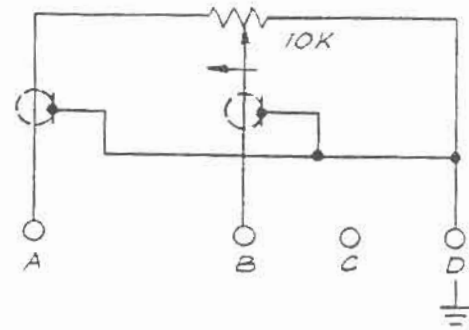

Figure 2-3 Potentiometer Connections for Remote Frequency Control
2. Apply a 0 to +9.75Vdc level between terminals B and D or connect a 10,000 ohm potentiometer between terminals A, B, and D as shown in Figure 2-3.